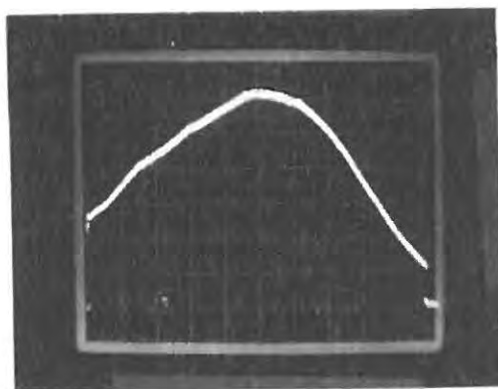

Fig. 3.14 Typical spectrum measured from Seed Oscillator. (Center wavelength @ 795 nm, Bandwidth = 35 nm, calibration is 4.4 nm/ms)
9. The further or closer the 1” × 7” mirror is to the optimum distance of the actual focal length, the broader the monitored spectrum will appear to sweep across the scope screen when adjusting the horizontal axis of the external mirror. Fig. 3.14 and 3.15 show the spectrum before and after the stretcher.